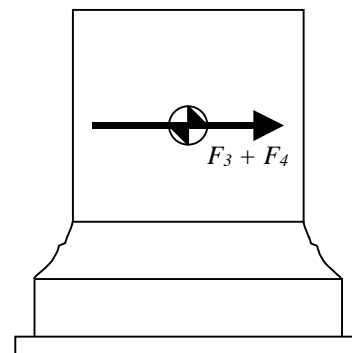

Figure 2 - Location of force vector for actuators 3 and 4.
When no payload is present, the center of gravity (CG) of the CUBE box is located at it’s geometric center (see Figure 2).
Recall that actuators 3 and 4 are responsible for longitudinal motion. These actuators are in a horizontal plane along the midpoint of the CUBE box. In this location, the actuators are driving through the center of gravity (CG) of the box as shown in Figure 2.